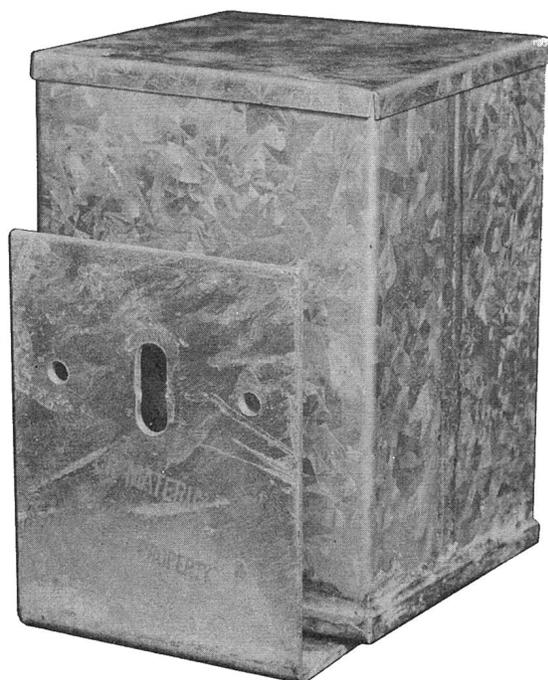

Figure 75 - 790053 Pole Box
4.23 The 790053GB pole box is a galvanized weatherproof box approximately 4" by 4" by 6" high. It has a removable cover, a grommeted opening at the bottom for wire entrance and a fibre lining for insulation. It comes with a L shaped mounting bracket that is drilled for backboard mounting and accommodates the GB-3608 transformer assembly and the KS-14417 autotransformer. (Figure 75)